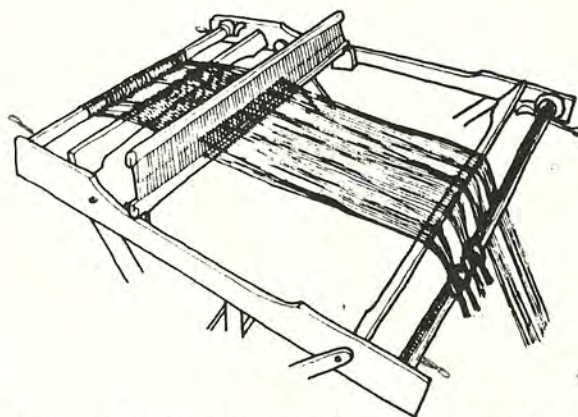

fig. 11
8. Temporarily tie 4 threads at each end into bows against the dents. **Place the heddle in the upper position on the shed blocks** (fig. 11). Now tie all the warp ends in groups of 4 or 8 into bows against the dents (fig. 11). Try to maintain an even tension while tying.